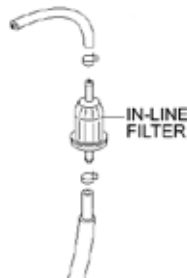

Figure 12. In-Line Fuel Filter
- Inspect in-line fuel filter (Part Number 16910Z4ES21, Figure 12) and replace if necessary.